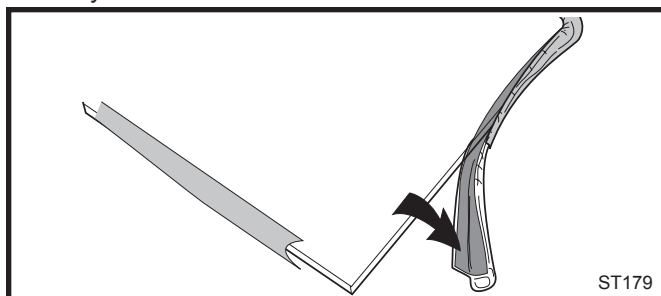

Fig. 61 Wrap the gasket material around the outside edge of the glass.
3. Starting on a long edge, remove about 6" of the protective paper strip and apply the flat adhesive face of the gasket around the outside-facing edge of the panel. Continue around the panel, applying a bout 6" at a time and being careful to not stretch the material. Do not overlap the gasket ends. (Fig. 61)